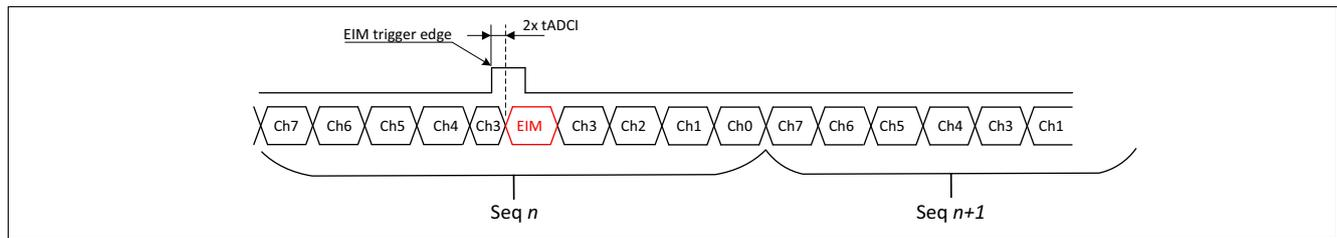

Figure 205 ADC1 EIM measurement within sequence example
- “Exceptional Interrupt Measurement” (EIM), upon hardware event, the channel programmed in CHx_EIM is inserted immediately. The current measurement is aborted, then the EIM measurement is inserted, it will start two tADC1 cycles after the trigger edge. After the EIM is done the aborted measurement is repeated and the sequence continues, see Figure 205. An EIM can even interrupt an ESM. The EIM trigger is level sensitive, as long as the EIM trigger input is high level the ADC1 performs EIM measurement(s). The number of EIMs performed depends on the setting of the CHx_EIM.REP flag.